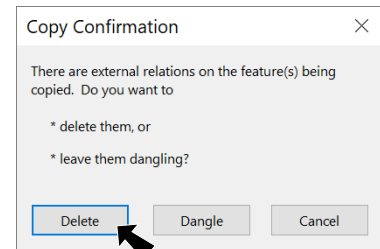

Fig. 26
Step 3. In the Confirm Copy dialog box Click Delete button, Fig. 26.